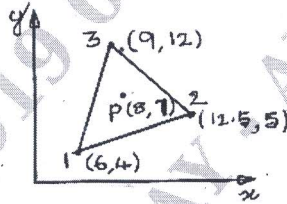

Fig. Q3 (b)
- b. Compute the shape functions N_1, N_2 and N_3 at point $P(8, 7)$ for the constant strain triangular element shown in Fig. Q3 (b). (06 Marks)